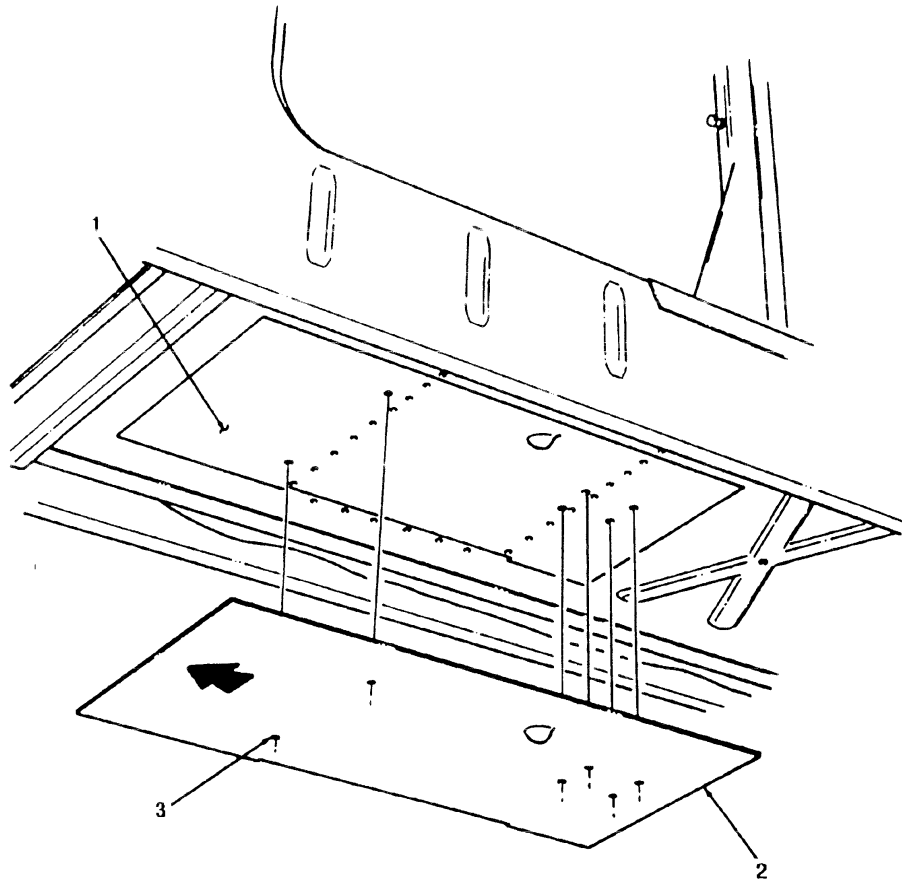

FIGURE 3-36
4. Using scribed outline marked in step 3 as a guide, cut and remove floor panel (1) section. (see figure 3-36)